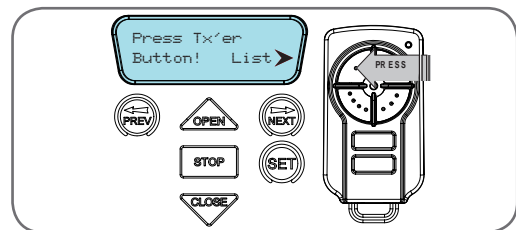

Fig 13.3
- Press the transmitter button you wish to use to operate the Door Opener (e.g. button 1) (Fig. 13.3).